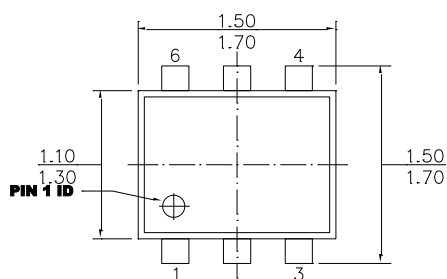

**Figure 12: Typical Application Circuit for MP1605GTF**
The external resistor divider sets the output voltage (see Figure 12). Select the feedback resistor (R1), which reduces the  $V_{OUT}$  leakage current, typically between 40kΩ to 200kΩ. There is no strict requirement on the feedback resistor.  $R1 > 10k\Omega$  is reasonable for most applications. R2 can be calculated with Equation (2):